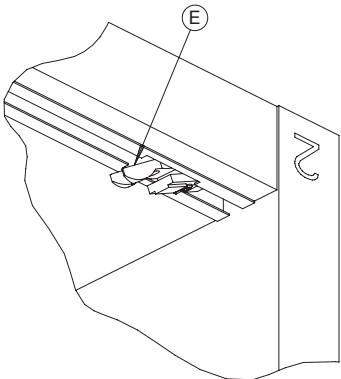

Fig. 5A
4. Once all the running gears are installed onto the track(s), insert one stopper (E) at each end. (Fig. 5A & 5B)